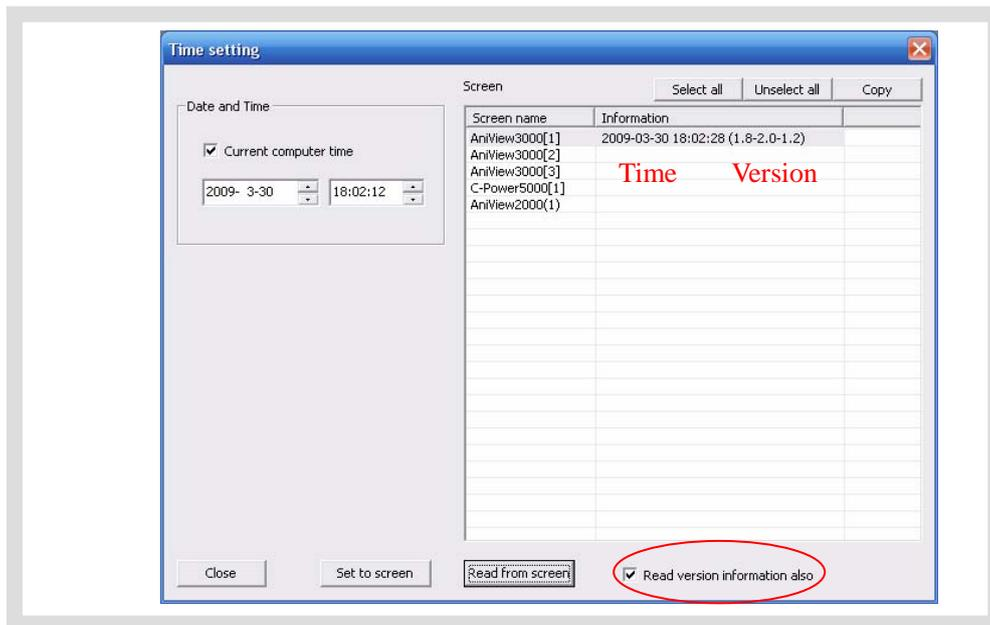

Figure34 Time setting
- 1) Click “Setting” – “Time on LED screen” in menu. The dialog box of “Time setting” pops up, as shown in Figure34.